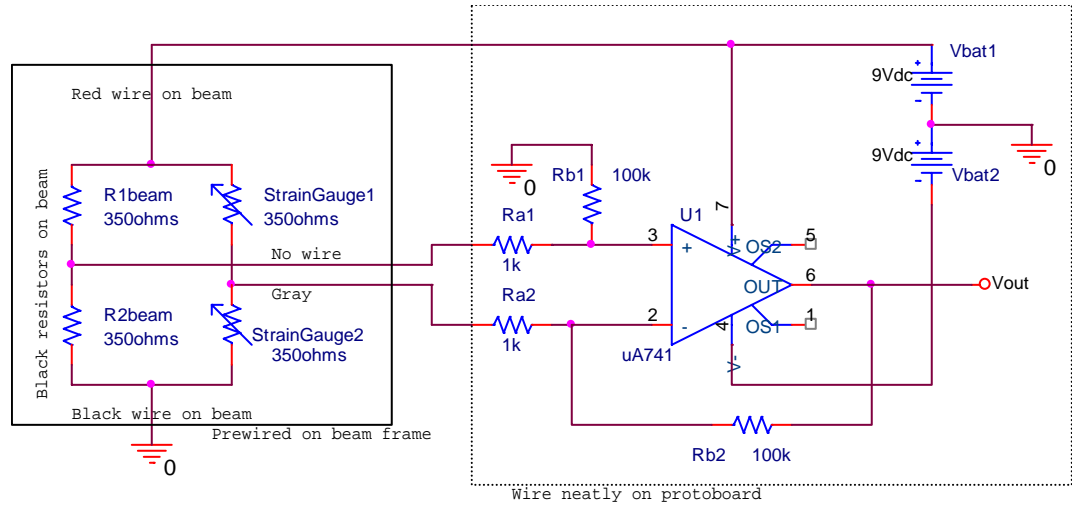

Figure B-3
B.2) Wire the circuit shown in figure B-3.
- If the voltage has increased, swap the two wires connected to Ra1 and Ra2 of figure B-3.